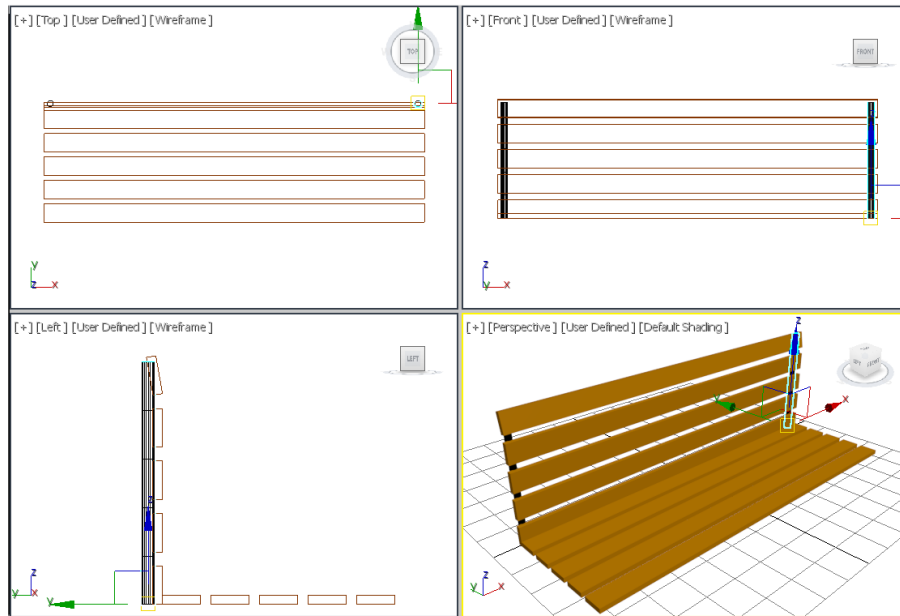

Figure 2-77 The vertical back support002 in viewports
6. Activate the Front viewport by middle-clicking in it. Choose the **Select and Move** tool and move the cursor over the horizontal axis. Press and hold the SHIFT key and the left mouse button, and then drag *vertical back support001* to the right side to align it on the right side of *horizontal back support*, as shown in Figure 2-77. Release the left mouse button and the SHIFT key; the **Clone Options** dialog box is displayed.
7. In the **Clone Options** dialog box, make sure the **Copy** radio button is selected and 1 is displayed in the **Number of Copies** spinner. Next, choose the **OK** button; *vertical back support002* is created having same dimensions as *vertical back support001*, refer to Figure 2-77.